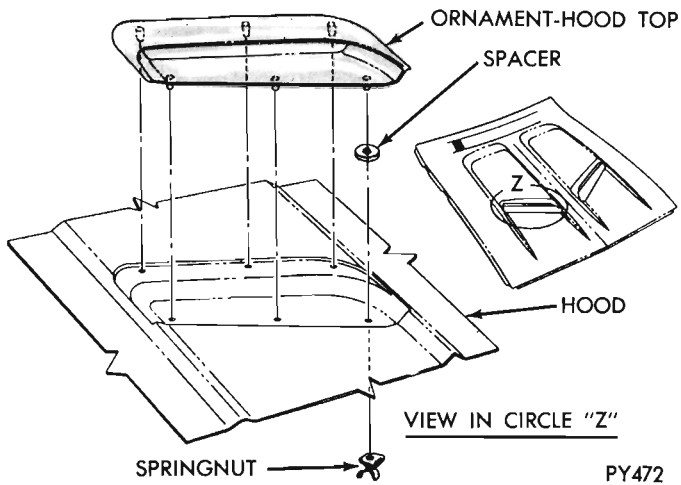

Fig. 11 - Hood Top Ornament
**HOOD TOP ORNAMENT (Fig. 11)**
(1) Sub-assembly (4) spacers, one to each corner stud. Spacer can be rubber tubing.
(2) Position spacer and ornament assembly to hood panel, secure with springnuts on leading studs.